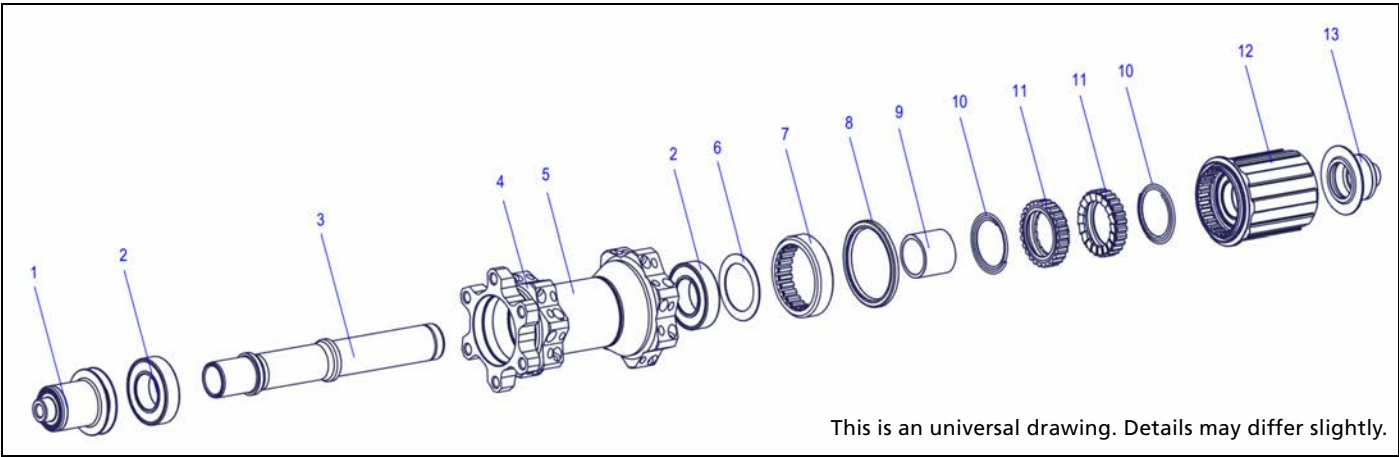

Figure 4-6: Overview: Ratchet System®
1. Clamp the left adapter (fig. 4-6/1) into a vice.
3. Clamp the left adapter (fig. 4-6/13) into a vice.
5. Pull the rotor (fig. 4-6/12) off the hub.
6. Take the springs (fig. 4-6/10), the star ratchets (fig. 4-6/11) and the spacer (fig. 4-6/9) off the hub.
1. Tap out the bearing on the disc side (fig. 4-6/2) with slight hammer strokes onto the axle.
3. Turn the hub clockwise and unscrew the ring nut (fig. 4-6/7).
The sealing (fig. 4-6/8) sitting in front of the ring nut will be released from its press fit while unscrewing the ring nut.
5. Remove the ring nut (fig. 4-6/7), the sealing (fig. 4-6/8) and the shim ring (fig. 4-6/6).
1. Slide the axle (fig. 4-6/3) into the bearing (fig. 4-6/2) on the drive side and tap out the bearing with slight hammer strokes.
2. Check the rotor (fig. 4-6/12) for damages.
4. Slide the axle (fig. 4-6/3) with its long side downwards into the installation cylinder.
6. Put a new ball bearing (fig. 4-6/2) with the colored side facing outwards onto the hub shell.
9. Remove the axle (fig. 4-6/3) from the hub shell.
- 2.** Put the ring nut (fig. 4-6/7) onto the tool with its recess facing upwards.
- 3.** Put the shim ring (fig. 4-6/6) into the recess of the ring nut.
2. Slide the axle (fig. 4-6/3) with its short end downwards into the installation cylinder.
4. Put the seal (fig. 4-6/8) onto the installation tool for the seal.